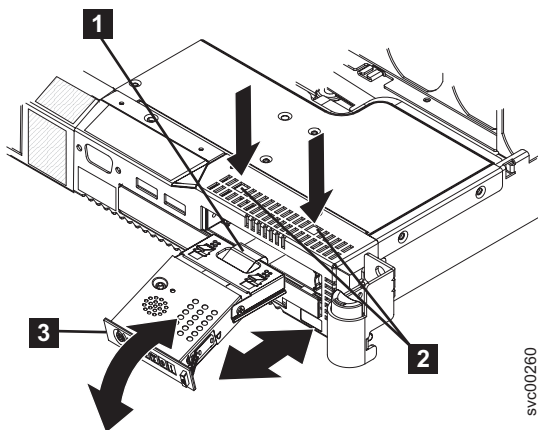

Figure 217. Removing the SAN Volume Controller 2145-8G4 operator-information panel
10. Press the two release buttons (**2** in Figure 217) that are visible through the top of the node and pull the assembly **3** completely out of the node. Carefully pull the attached light path ribbon cable **1** out of the server.